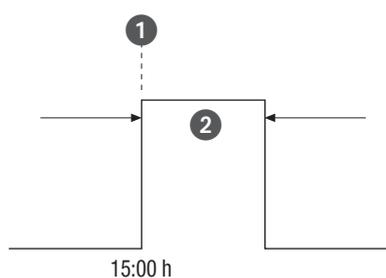

Fig. 30: Example of a pulse switching program
- (Fig. 30/①) Start time
- (Fig. 30/②) Duration = switching ON